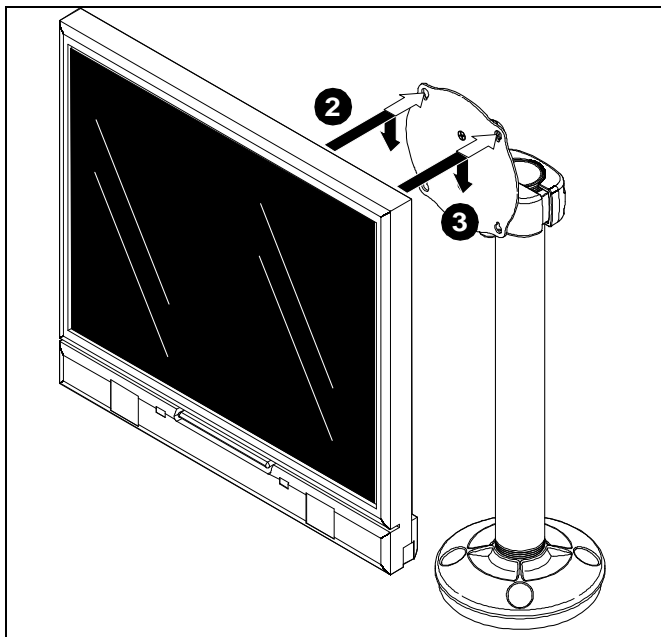

Figure 6
3. Place two screws in display back into upper teardrop mounting holes in display mounting plate and lower display until screws are seated in lower area of teardrop mounting holes. (See Figure 6)